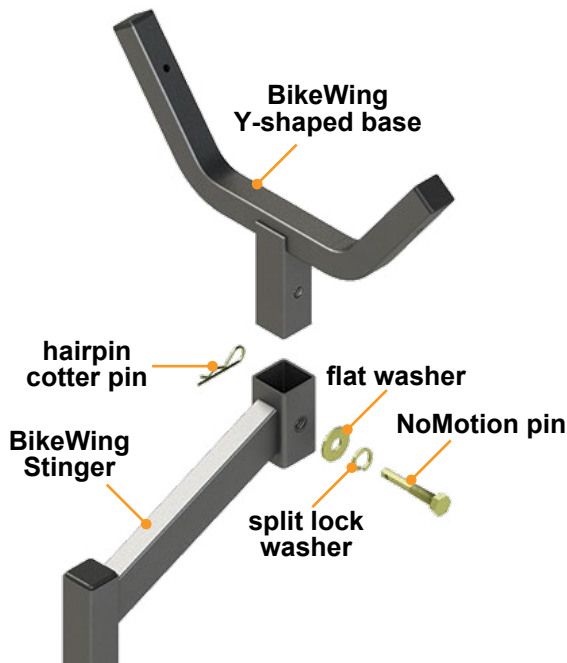

Fig.4
1. Attach Y-shaped base to Stinger (if necessary) and secure with NoMotion pin, washers and hairpin cotter pin (Fig.4).